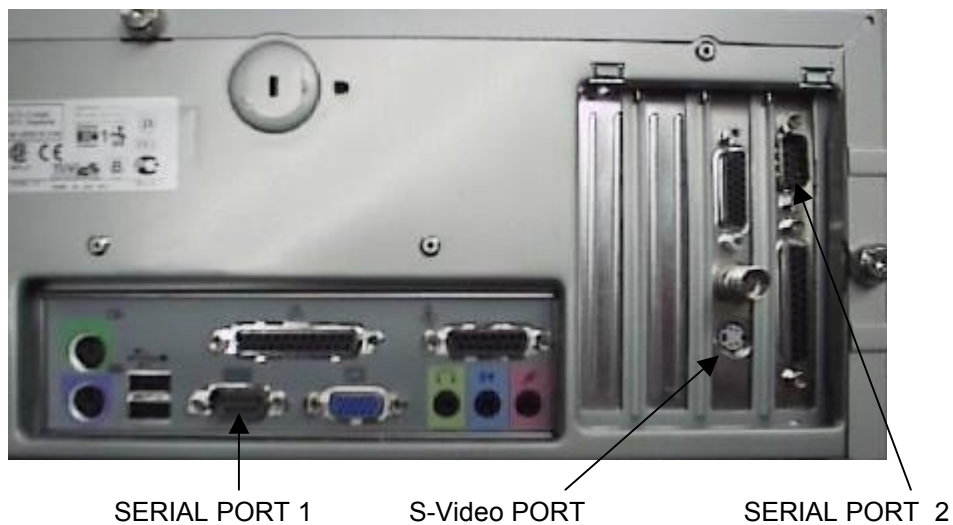

Figure 3: PC Back Panel
- 1-6 Connect the S-video cable (included) to the S-video port on the back of the TF 2000P. Then connect the other end of the cable to the S-video port on the back of the video expansion card on the PC. (See Figure 3)
- 1-7 Connect the serial port on the back of the TF 2000R to Serial Port 1 (located next to the monitor port) on the computer using one 9 pin serial cable (included). (See Figure 3)
- 1-8 Connect the serial port on the back of the TF 2000P to Serial Port 2 on the computer using the other 9 pin serial cable (included). (See Figure 3)